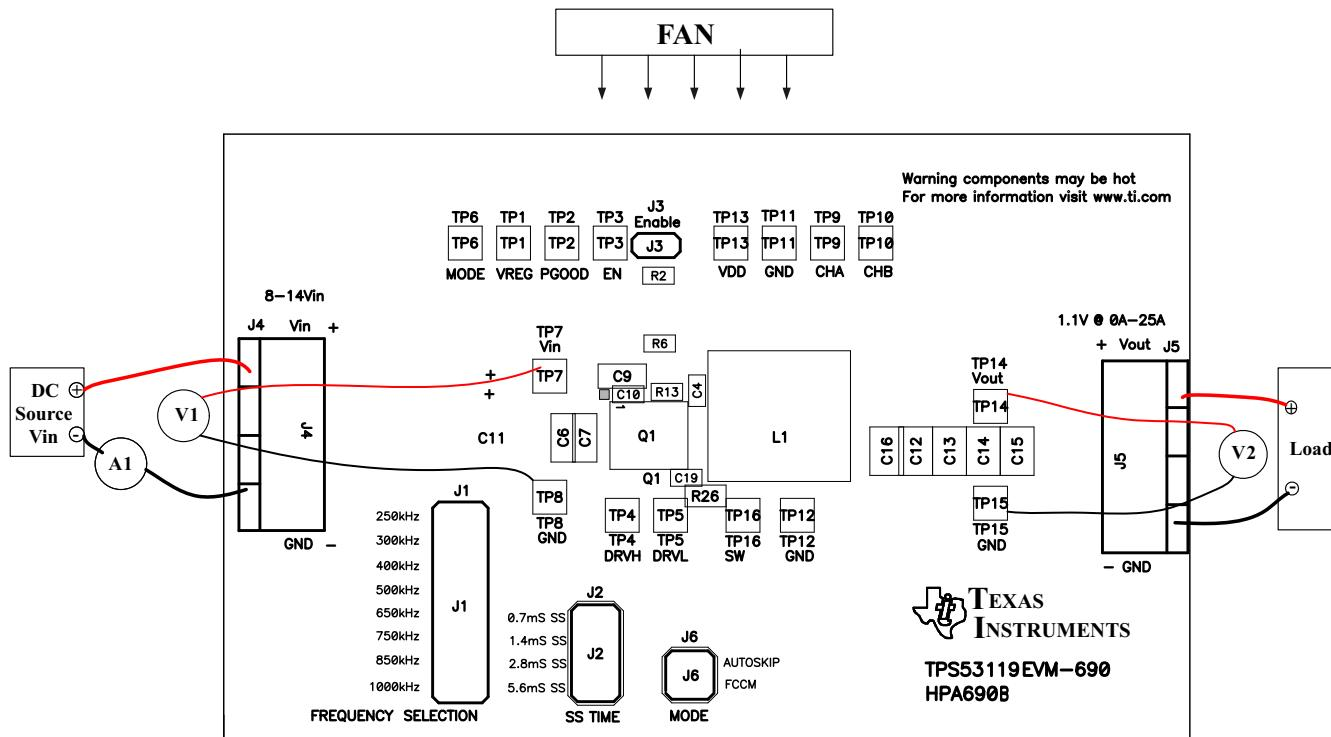

Figure 3. TPS53119EVM-690 Recommended Test Setup
Voltage Source: The input voltage source V_{IN} must be a 0-V to 14-V variable dc source capable of supplying 10 Adc. Connect Vin to J4 as shown in Figure 3.
Figure 3 is the recommended test setup to evaluate the TPS53119EVM-690. Working at an ESD workstation, make sure that any wrist straps, bootstraps, or mats are connected referencing the user to earth ground before power is applied to the EVM.
- Prior to connecting the dc input source V_{IN} , it is advisable to limit the source current from V_{IN} to 10 A maximum. Ensure that V_{IN} is initially set to 0 V and connected as shown in Figure 3.
Place a fan as shown in Figure 3 and turn it on, ensuring that air is flowing across the EVM.
1. Set up EVM as described in Section 5 and Figure 3.